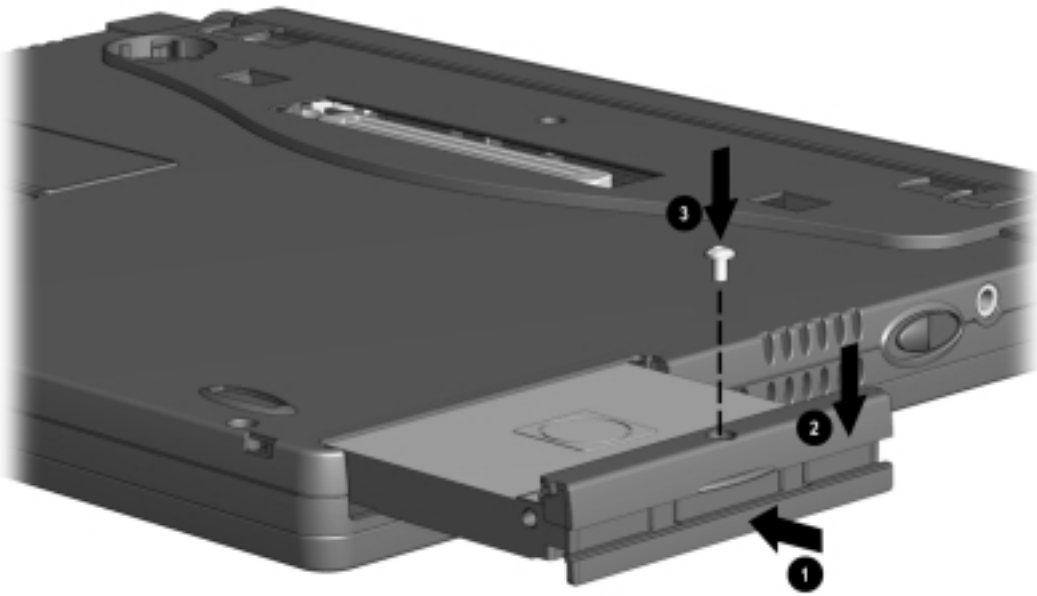

Figure 5-8. Inserting a Hard Drive
4. Slide the hard drive into the bay until the connector is seated **❶** (Figure 5-8).
5. Push the front bezel down **❷**.
6. Insert the hard drive screw **❸**.